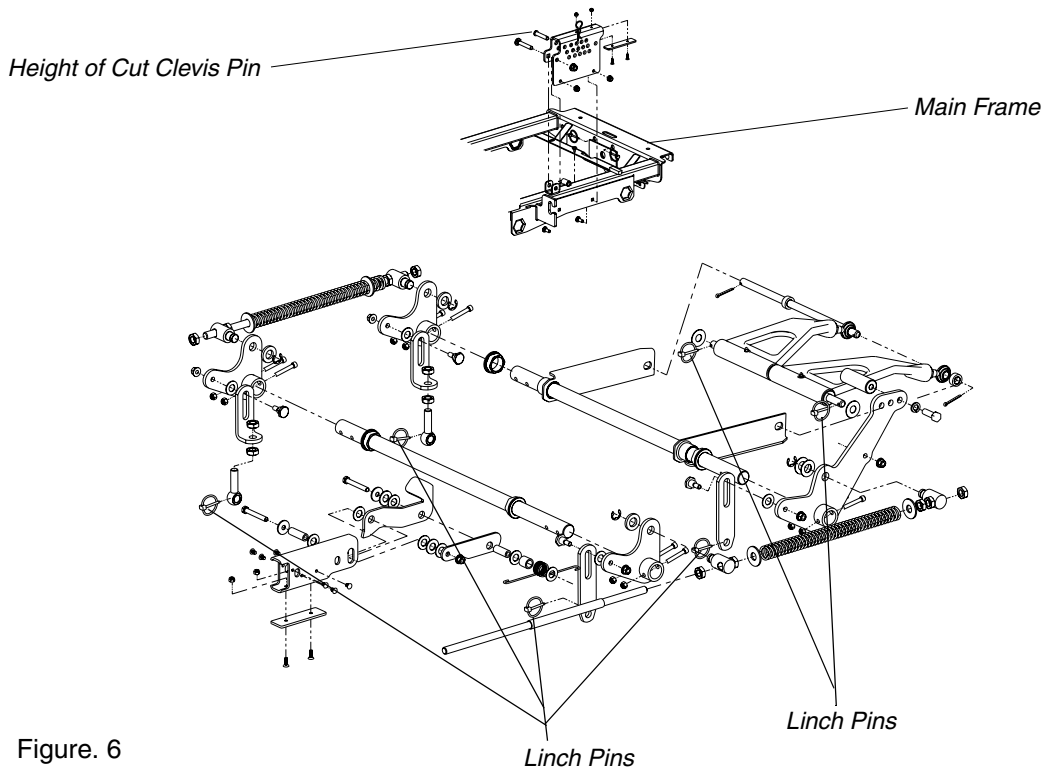

Figure. 6
- Remove six linchpins (See Fig. 6) (4) from the deck and (2) from the front of the mower. Remove the linchpins on the left and right rear side of the cutter deck (2);